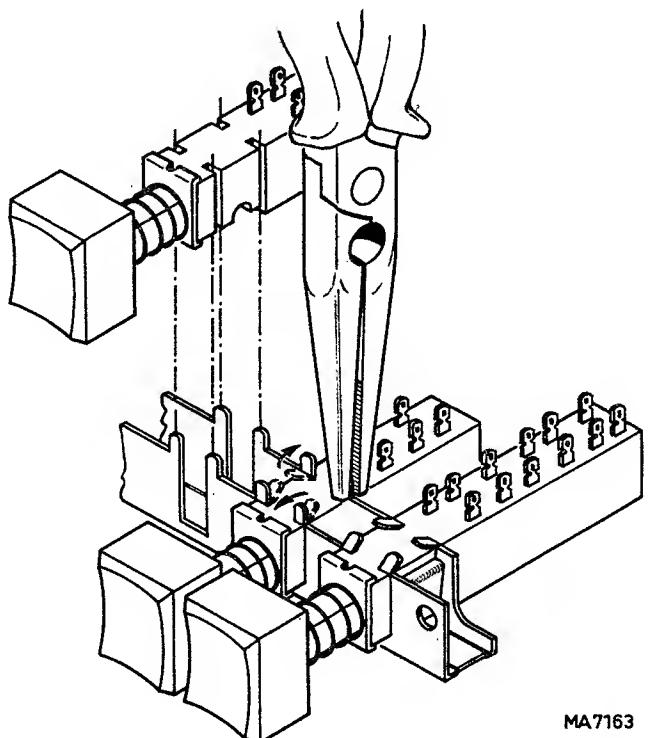

Fig. 6. Replacing a push-button switch
- Straighten the 4 retaining lugs of the relevant switch as shown in Fig. 6.